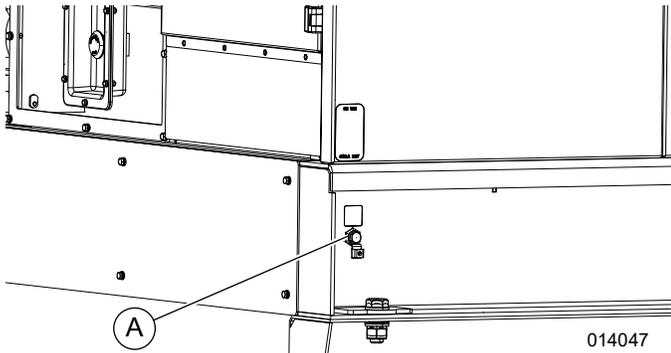

Figure 3-12. Grounding Lug
See **Figure 3-12**. A ground connection (A) is located on the curbside rear exterior of the generator. The unit must be connected to ground for proper operating safety. The generator neutral is bonded to ground when it is shipped from the factory. The bonding plate must be removed when the generator is used as a standby power source. Installation should be in compliance with the National Electrical Code (NEC), state, and local regulations.